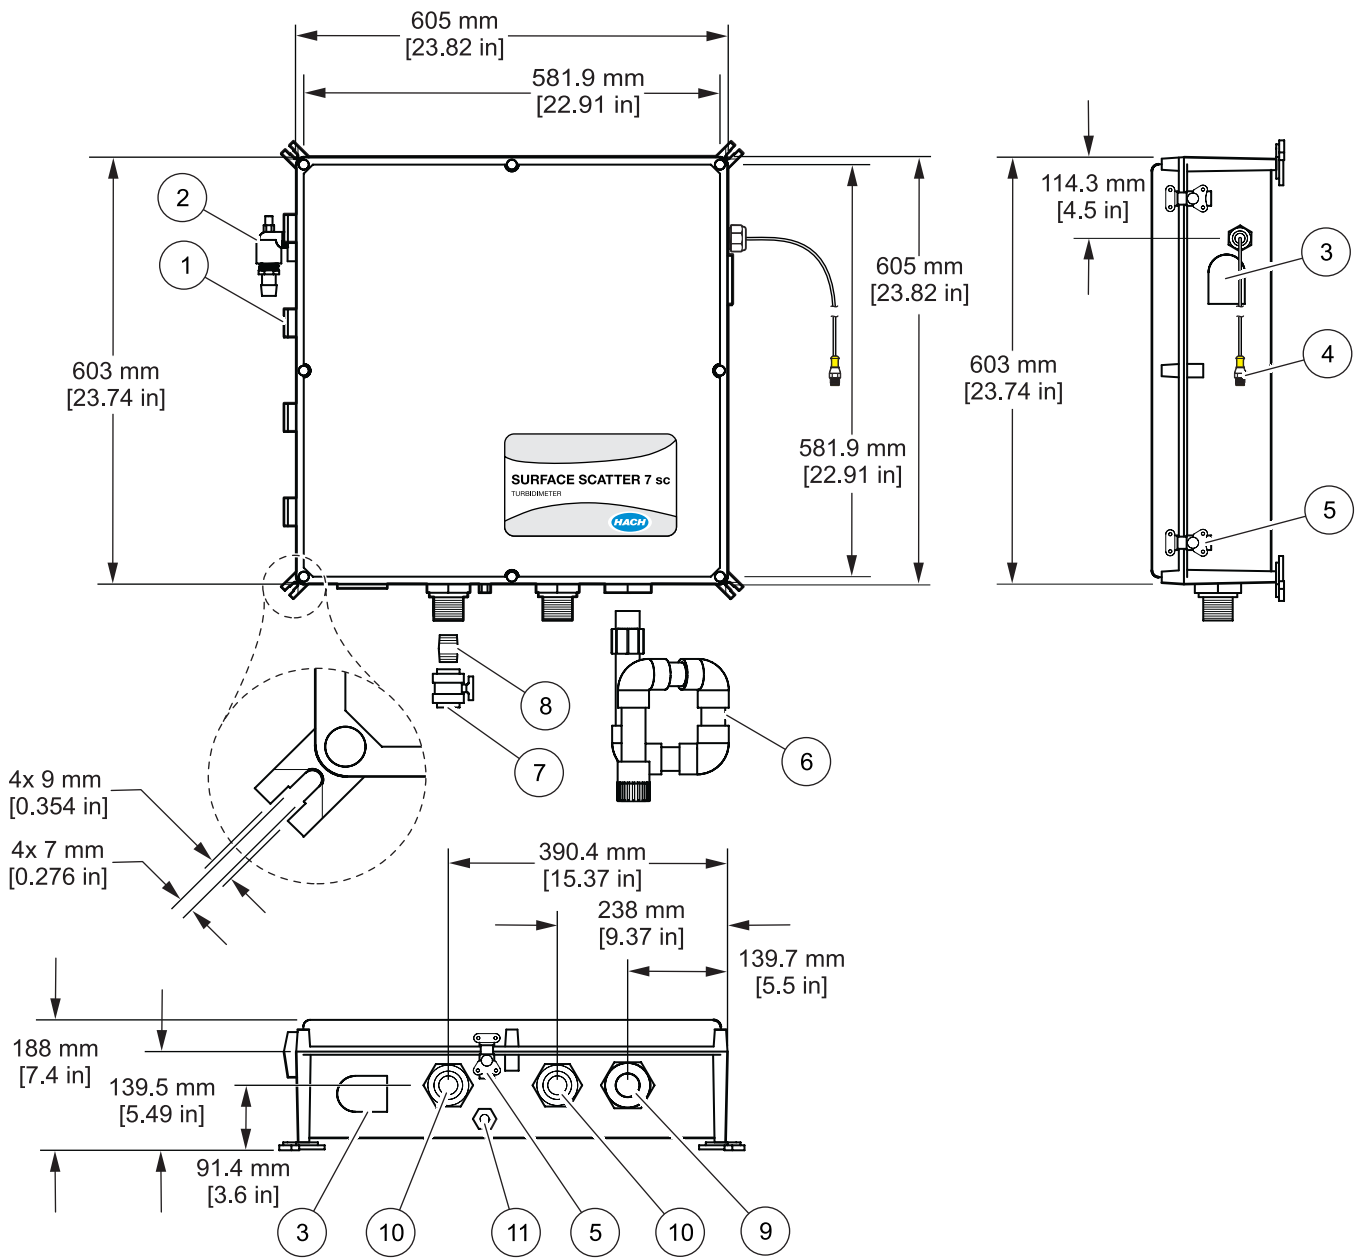
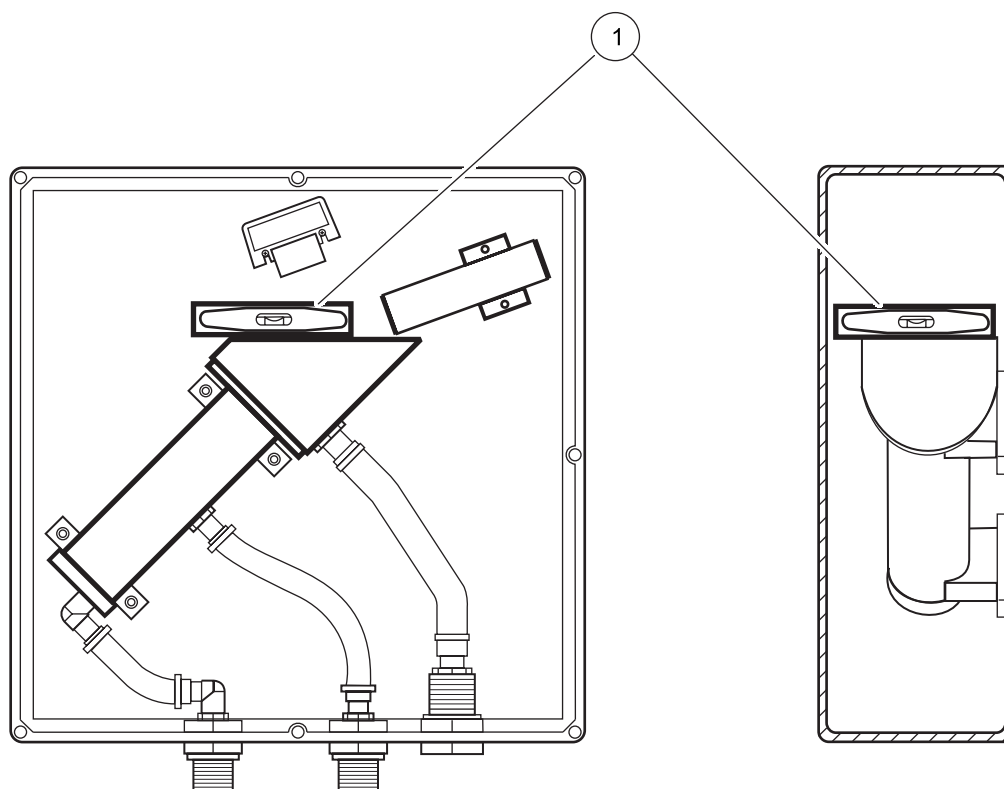
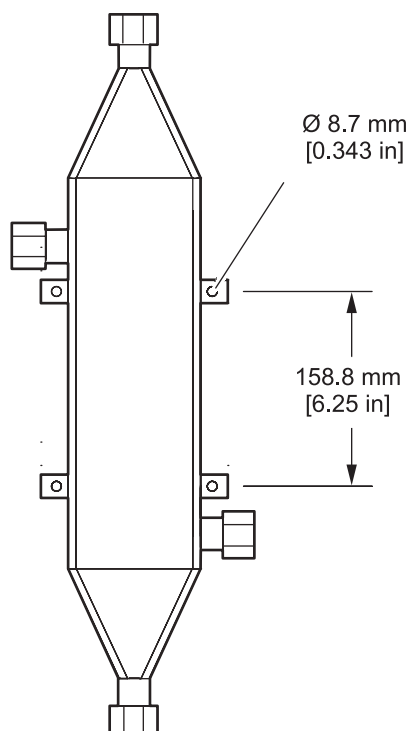

Figure 8 SS7 sc and SS7 sc-HST installation drawing
Figure 9 Instrument leveling
Figure 10 Heat exchanger dimensions
Dimensions and other installation information are shown in Figure 8 on page 18, Figure 9 on page 19 and Figure 10 on page 20. The control and sample unit are designed for wall mounting. The turbidimeter sensor must be mounted within six feet of the controller unless an extension cable is used. Maximum cable length is 9.6 m (31.5 ft).
1. To ensure proper performance, the sample unit must be level (Figure 9 on page 19). Use a small level across the top opening of the turbidimeter body to verify that the instrument does not slope left-to-right or front-to-back.
An optional heat exchanger (Cat. No. 48551-00) is available for the SS7 sc-HST (Figure 10 on page 20). The heat exchanger reduces sample temperatures that exceed the temperature requirements of the instrument. It can reduce sample temperatures of up to 100 °C but is not suitable for steam or super-heated water. A source of cooling water is required. The heat exchanger is made of 316 stainless steel and has $\frac{3}{4}$ " MNPT pipe connections. The large plumbing connections help eliminate clogging.
- See Figure 10 on page 20 for installation dimensions.